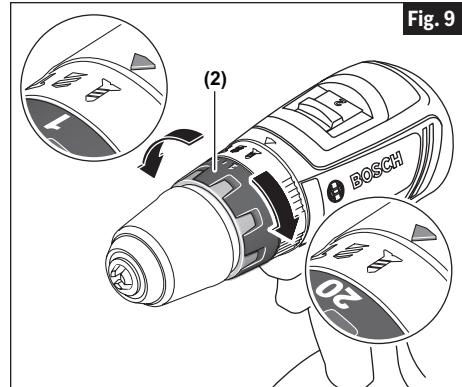

Fig. 9
Your tool features 20 clutch settings. Output torque will increase as the clutch ring (2), is rotated from 1 to 20. The drill “” position will lock up the clutch to permit drilling and driving heavyduty work, and also enables bits to be changed quickly and easily in the keyless chuck (Fig. 9).